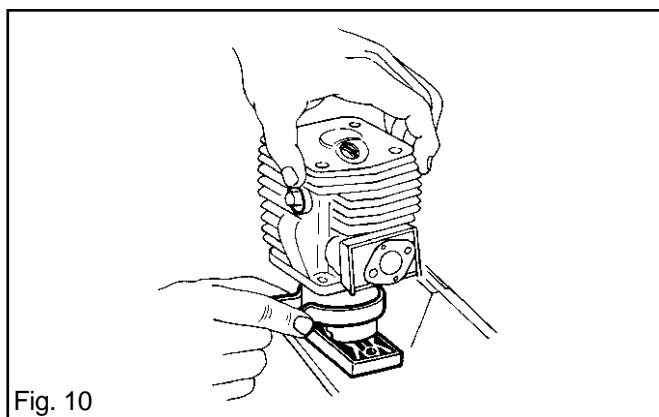

Fig. 10
6. Compress the piston ring either by hand or using the piston ring tool 502 50 70-01. See fig. 10. Carefully fit the cylinder.